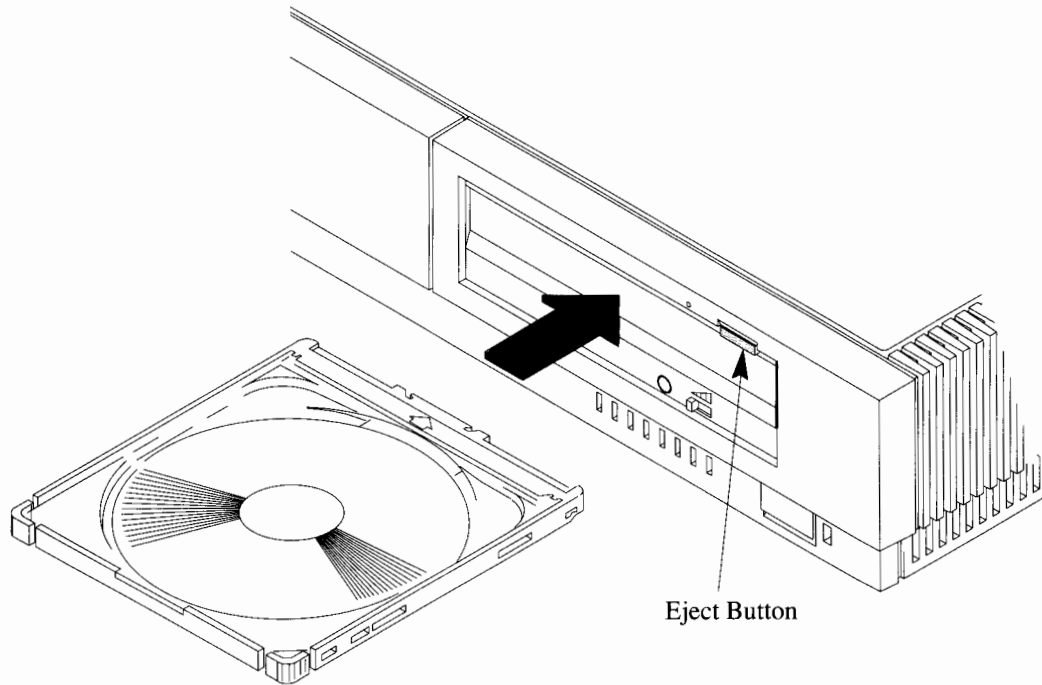
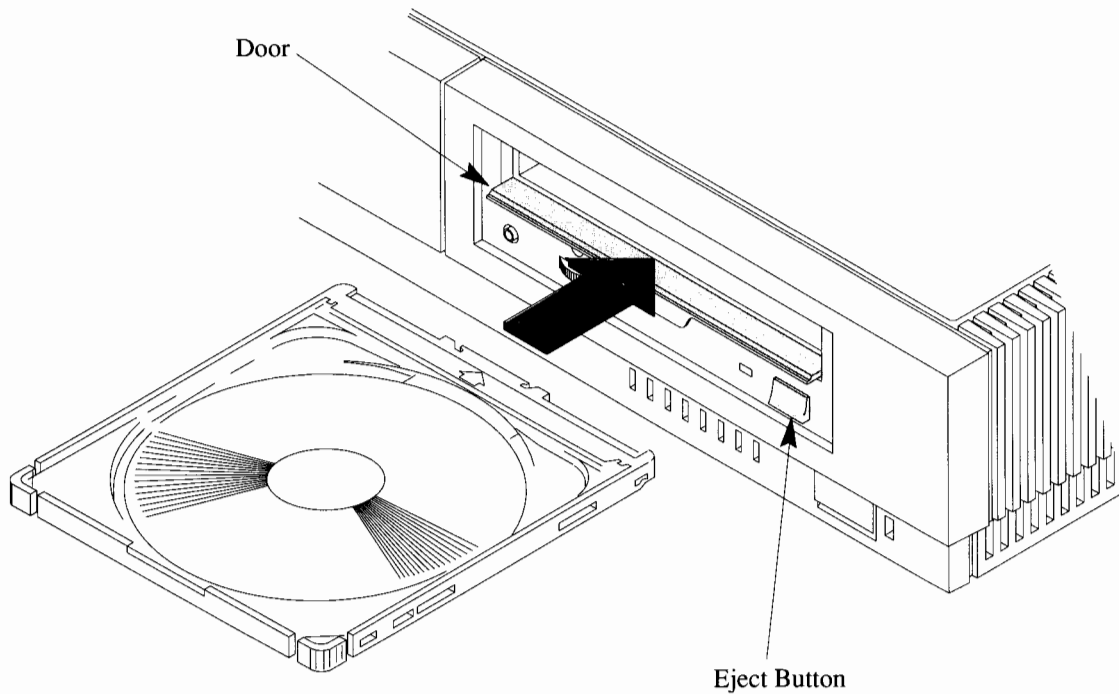

Figure 4-2. Loading a CD-ROM Disk-Caddy
Figure 4-3. Loading a CD-ROM Disk Caddy (Drive with Door)
Your workstation may have either the CD-ROM drive pictured in Figure 4-2 or the CD-ROM drive pictured in Figure 4-3. If your CD-ROM drive is the drive pictured in Figure 4-3, manually open the door on the front while loading a CD-ROM disk caddy and always keep the door closed when not loading or inloading a disk caddy.
1. Hold the disk caddy with the cover facing up and the arrow on the top of the caddy pointing toward the CD-ROM drive, as shown in Figures 4-2 and 4-3.
1. Press the eject button on the CD-ROM drive. (See Figures 4-2 and 4-3.)
2. Press the eject button on the CD-ROM drive. (See Figures 4-2 and 4-3.)